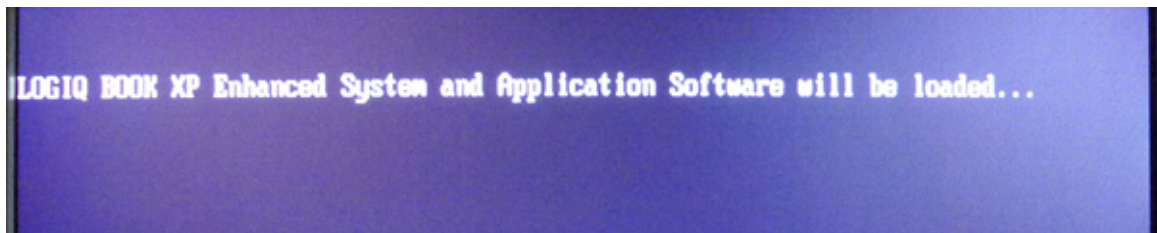

Figure 3-29 Software Loading
- 6.) The system operates automatically to scan USB Devices as shown in Figure 3-29 on page 3-33